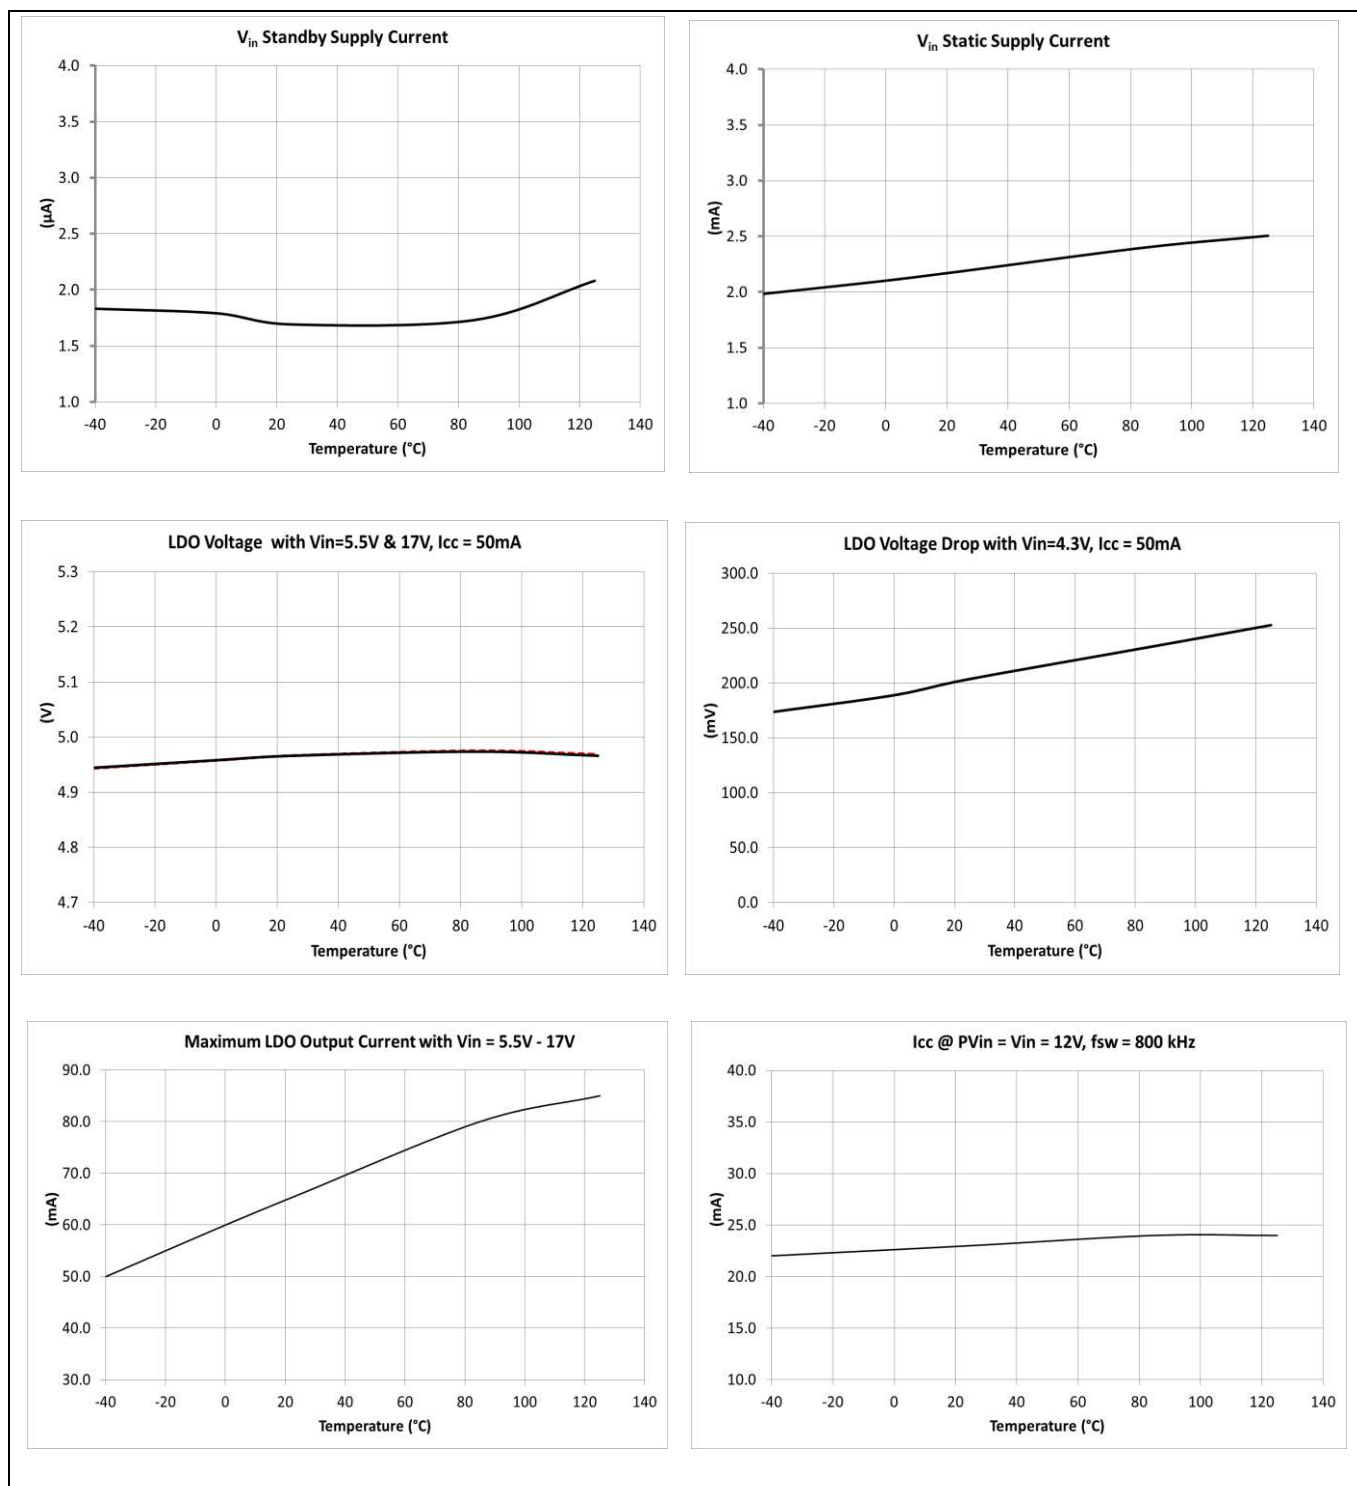

Figure 6 Typical operating characteristics (set 1 of 3)
- When using the internal LDO with $5.5 \text{ V} \leq V_{in} \leq 17 \text{ V}$, it is recommended to check the required V_{CC} bias current for the operation above 1.6 MHz, to ensure that it does not exceed the LDO output current capability as shown in Figure 6. With the increase of f_{sw} , the resulting I_{CC} is also increased mainly due to the increase of the gate charge that is proportional to f_{sw} . In Figure 6, the typical I_{CC} at $PV_{in} = V_{in} = 12 \text{ V}$ and $f_{sw} = 800 \text{ kHz}$ has been provided, which can be used to estimate the I_{CC} at other f_{sw} .